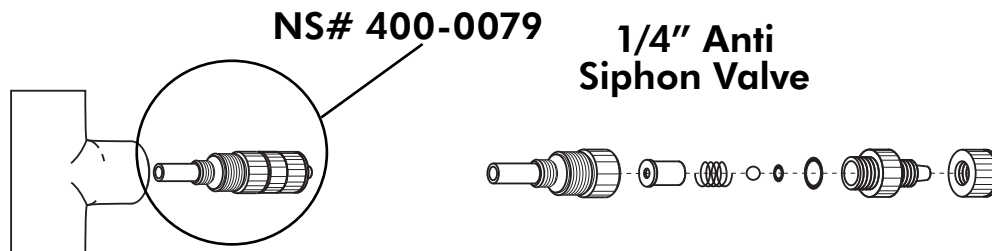

FIG. 4.8
- ☑ Periodically clean the injection/check valve assembly, especially when injecting fluids that calcify such as sodium hypochlorite. These lime deposits and other build ups can clog the fitting, increase the back pressure and interfere with the check valve operation. See section 4.3.4. Fig. 4.8.